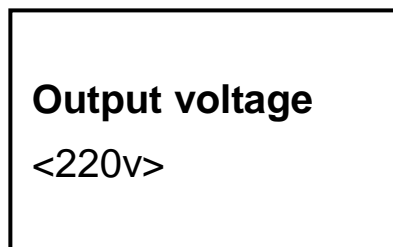

Fig. 4-11
- 1). Press  button or  button to choose “**Output voltage**” (Fig. 4-11). Press button  and the cursor will flash on “<220v>”.